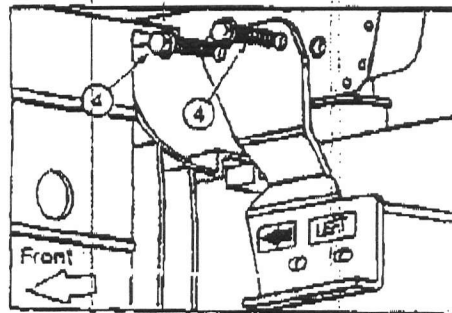

Fig. 6
8. Hand start the 12mm bolts into the 12mm weld nuts on the side plate of the frame. (See Fig. 6)